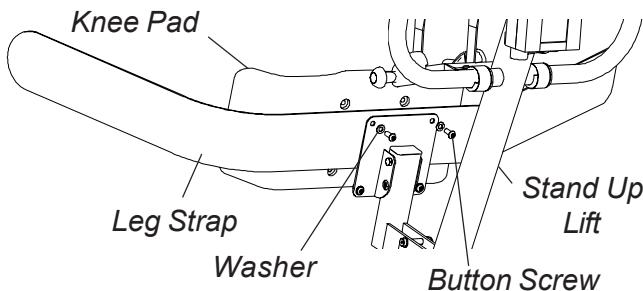

FIGURE 4 - REPLACING OPTIONAL LEG STRAP
REPLACING OPTIONAL LEG STRAP (FIGURE 4)
1. Remove TOP (2) button screws and washers that secure knee pad and existing leg strap to stand up lift.
2. Loosen BOTTOM two (2) button screws and washers that secure knee pad and existing leg strap to stand up lift.
4. Position the new leg strap between the four (4) mounting holes as shown in **FIGURE 4**.